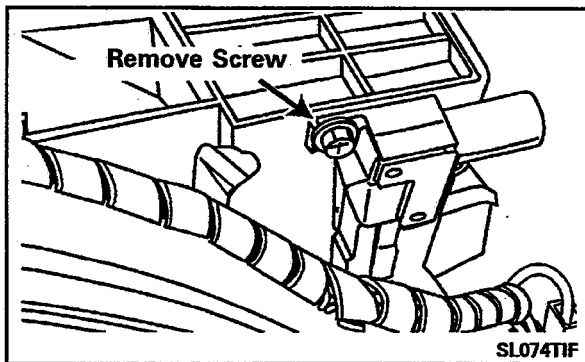

Figure 2-61
4. Remove the two screws securing the switch to the outer tub assembly (Figure 2-61).